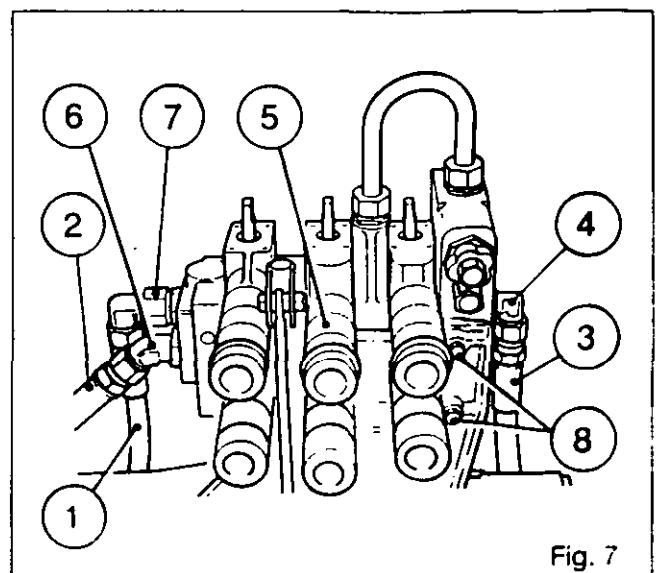

Fig. 7
11. Refit the spool valve assembly (Fig.7). Tighten screws **(8)**. Refit quick couplers **(5)** and connectors **(4)**, **(6)** and **(7)**.
12. Position unions **(4)**, **(6)** and **(7)**. Reconnect and tighten hoses **(1)**, **(2)** and **(3)**(Fig.7).